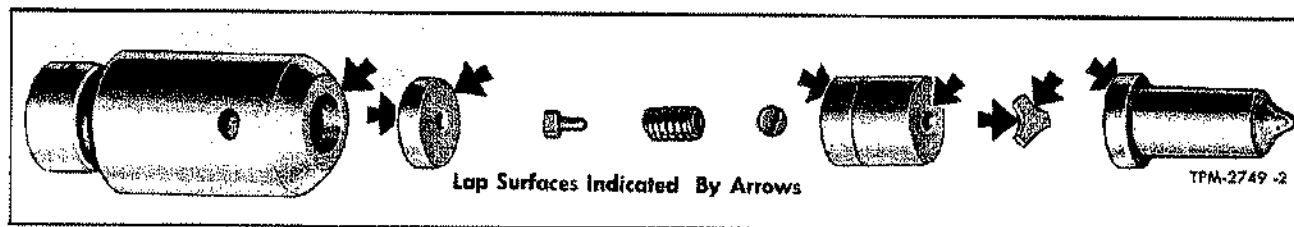

Figure 23C—Sealing Surfaces of Injector Parts Requiring Lapping
8. Inspect the sealing surfaces of the spray tip and valve parts indicated in figure 23C. The sealing surfaces should be examined with a magnifying glass, for even the slightest imperfections will prevent the injector from operating properly. Check for burrs, nicks, erosion, cracks, chipping and excessive wear. Also, check for enlarged orifices in spray tip. Replace damaged or worn parts.
10. When reinstalling used valve parts in an injector, all the sealing surfaces (fig. 23C), with the exception of the crown valve, must be lapped as outlined under "Lapping Injector Parts" following.